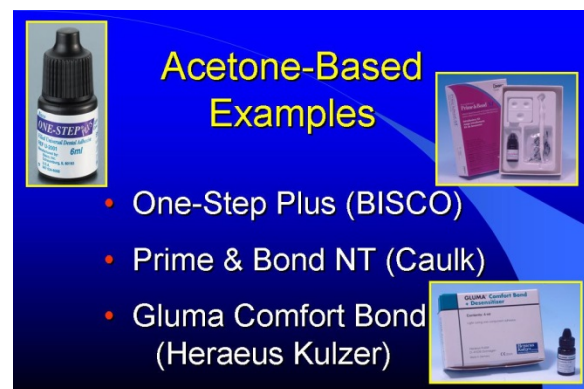

Figure 5-B
* Historical examples of acetone-based one bottle DBAs include One Step Plus (Bisco), Prime and Bond NT (Caulk), and Gluma Comfort Bond (Heraeus Kulzer). See Figure 5-B.